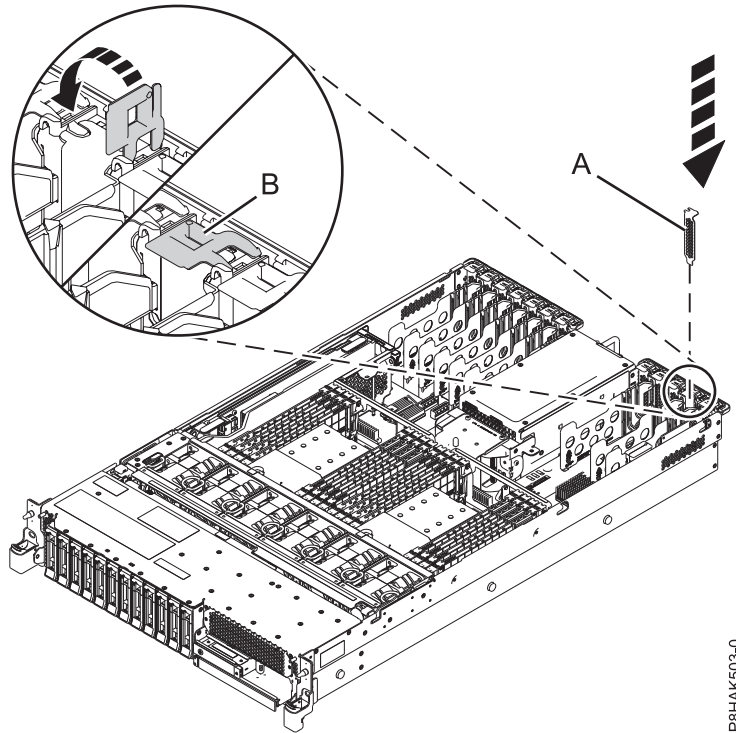

Figure 16. Installing a filler in a PCIe adapter slot in a 5148-21L, 5148-22L, 8247-21L, 8247-22L, 8284-21A, or 8284-22A system
- a. Carefully grasp the filler tailstock and align the filler with the slot and its connector on the system backplane, as shown in Figure 16 on page 29.